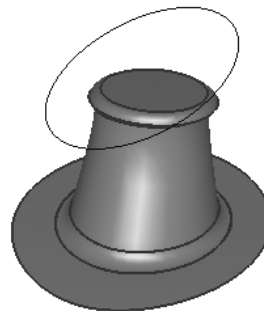

Figure 11-15 Model modified by using the rigid target
Rigid targets can be moved and translated but their shapes cannot be modified by applying transformation. To add a rigid target to an object, choose the **Add Rigid Targets** button; you will be prompted to select the geometry to be added as target. Select the geometry to be made rigid and then use the transformation tools (**Move** or **Rotate**) to view the effect of adding these targets. Note that you cannot scale or shear the rigid targets. Also, when you select a rigid target and choose the **Accept Targets** button, the selected target will be highlighted in green color with the label **Rigid (0)** on top of it. This indicates that the selected rigid target belongs to the 0 group. If you add another rigid target to the object, the rigid target will be highlighted in yellow with the label **Rigid (1)** on top of it. This rigid target will belong to the 1 group. Figure 11-15 shows the model after modifying it by using the rigid target.